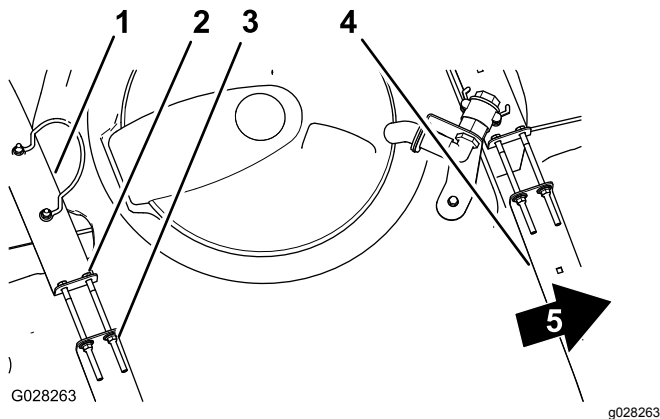

Figure 43
2. Check to see if there is any movement between the tank straps and the tank (Figure 43).
3. If the tank straps fit loosely to the tank, tighten the flanged locknuts and bolts at the top of straps until the straps are flush with the surface of the tank (Figure 43).